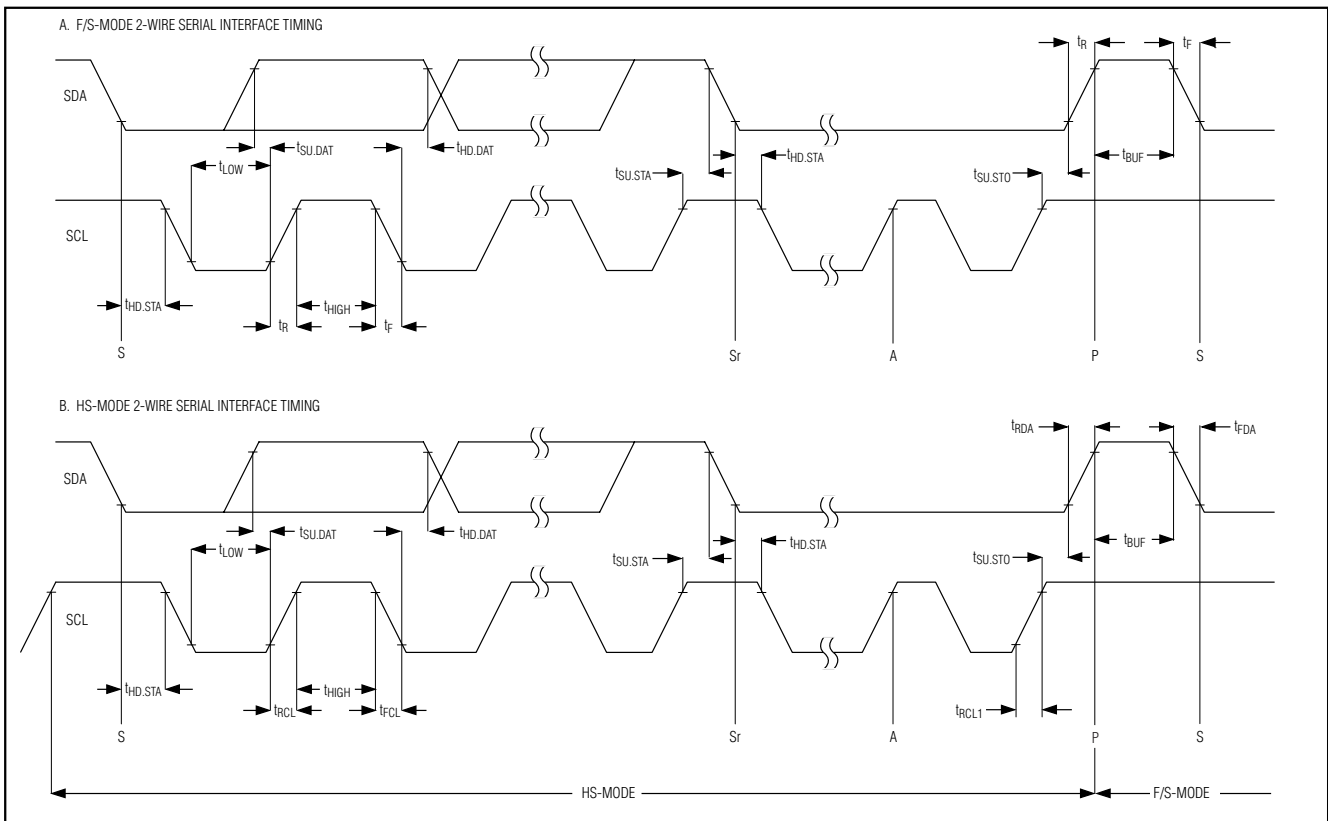

Figure 1. 2-Wire Serial Interface Timing
### TIMING CHARACTERISTICS (Figure 1)
## TIMING CHARACTERISTICS (Figure 1) (continued)
**Note 10:** A master device must provide a data hold time for SDA (referred to  $V_{IL}$  of SCL) in order to bridge the undefined region of SCL's falling edge (see Figure 1).
At power-up, the MAX1236–MAX1239 bus timing is set for fast-mode (F/S-mode), which allows conversion rates up to 22.2ksps. The MAX1236–MAX1239 must operate in high-speed mode (HS-mode) to achieve conversion rates up to 94.4ksps. Figure 1 shows the bus timing for the MAX1236–MAX1239's 2-wire interface.